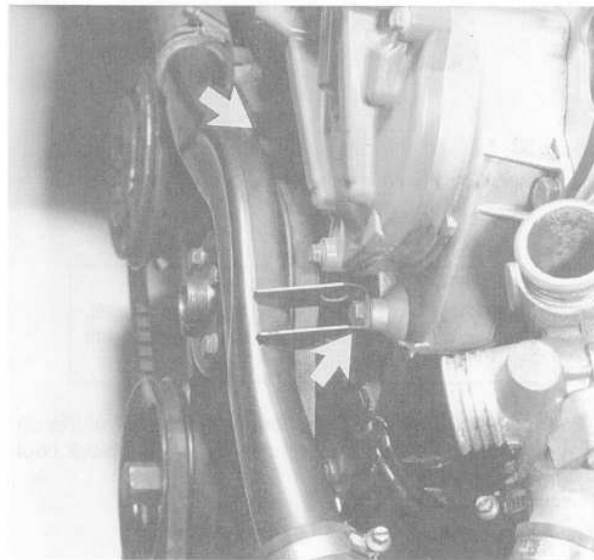

Fig. 8. Coolant cross-pipe mounting bolts (arrows).
4. Remove metal coolant cross pipe from front of engine. See Fig. 8.